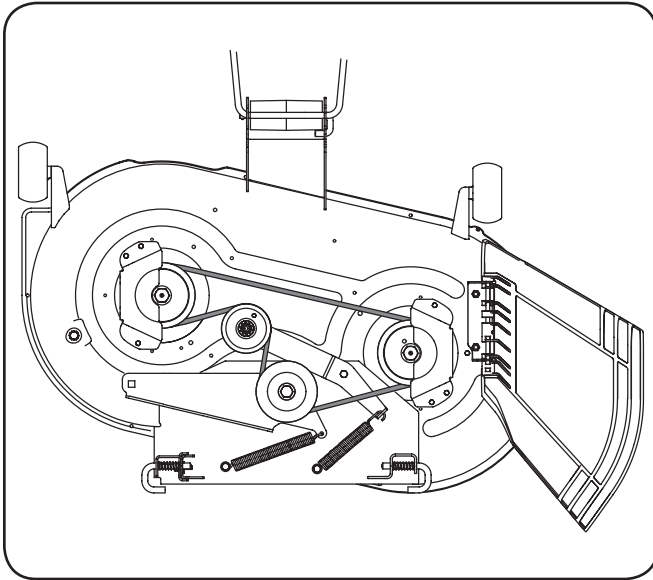

Figure 7-11
7. Route the new belt as shown for 42" deck in Fig. 7-11